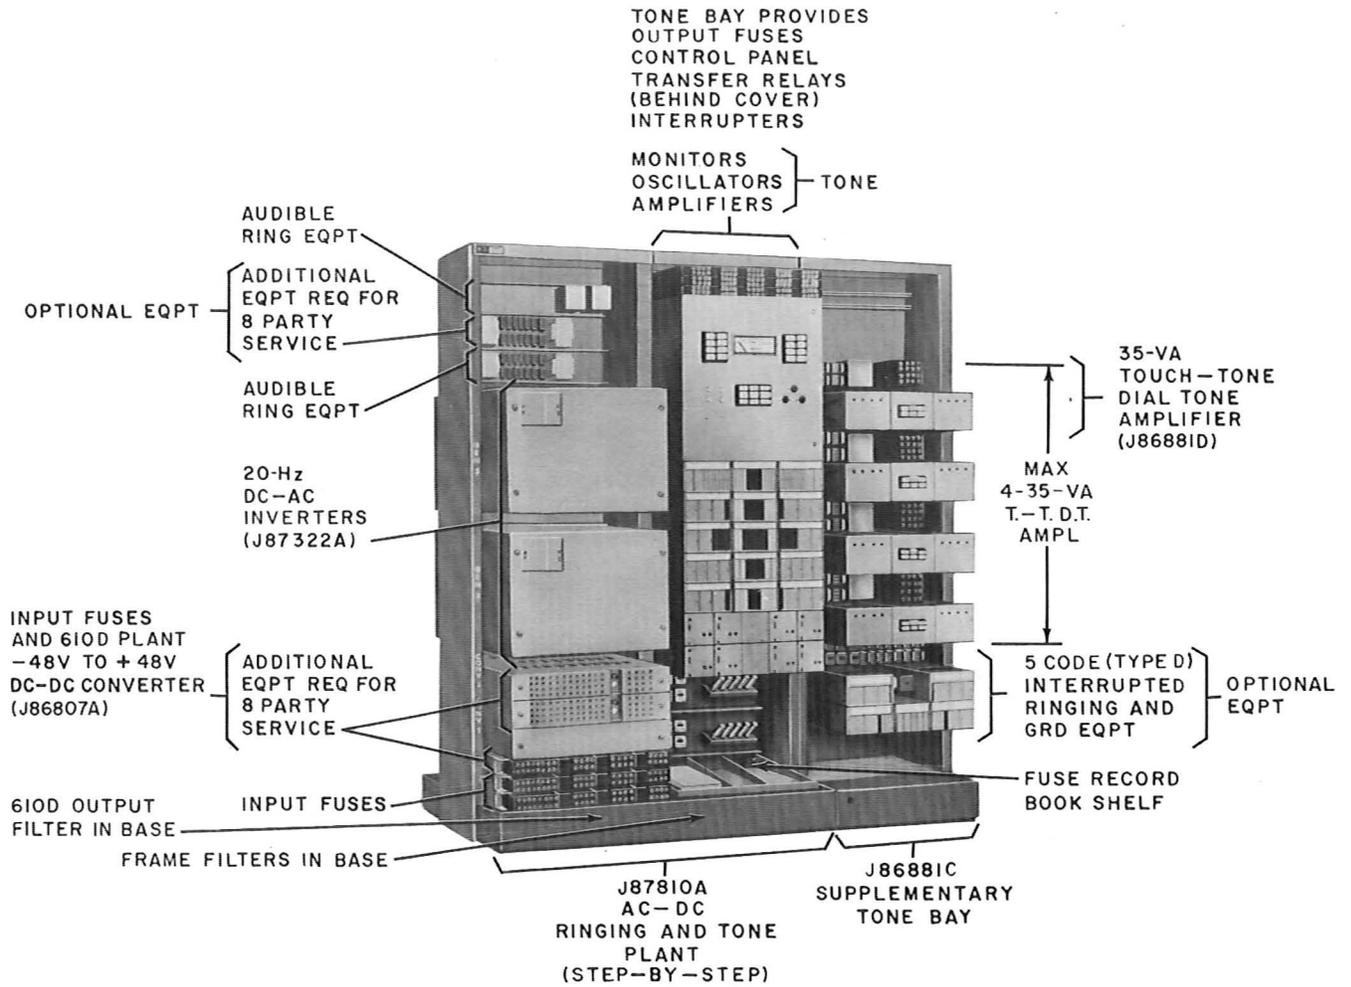
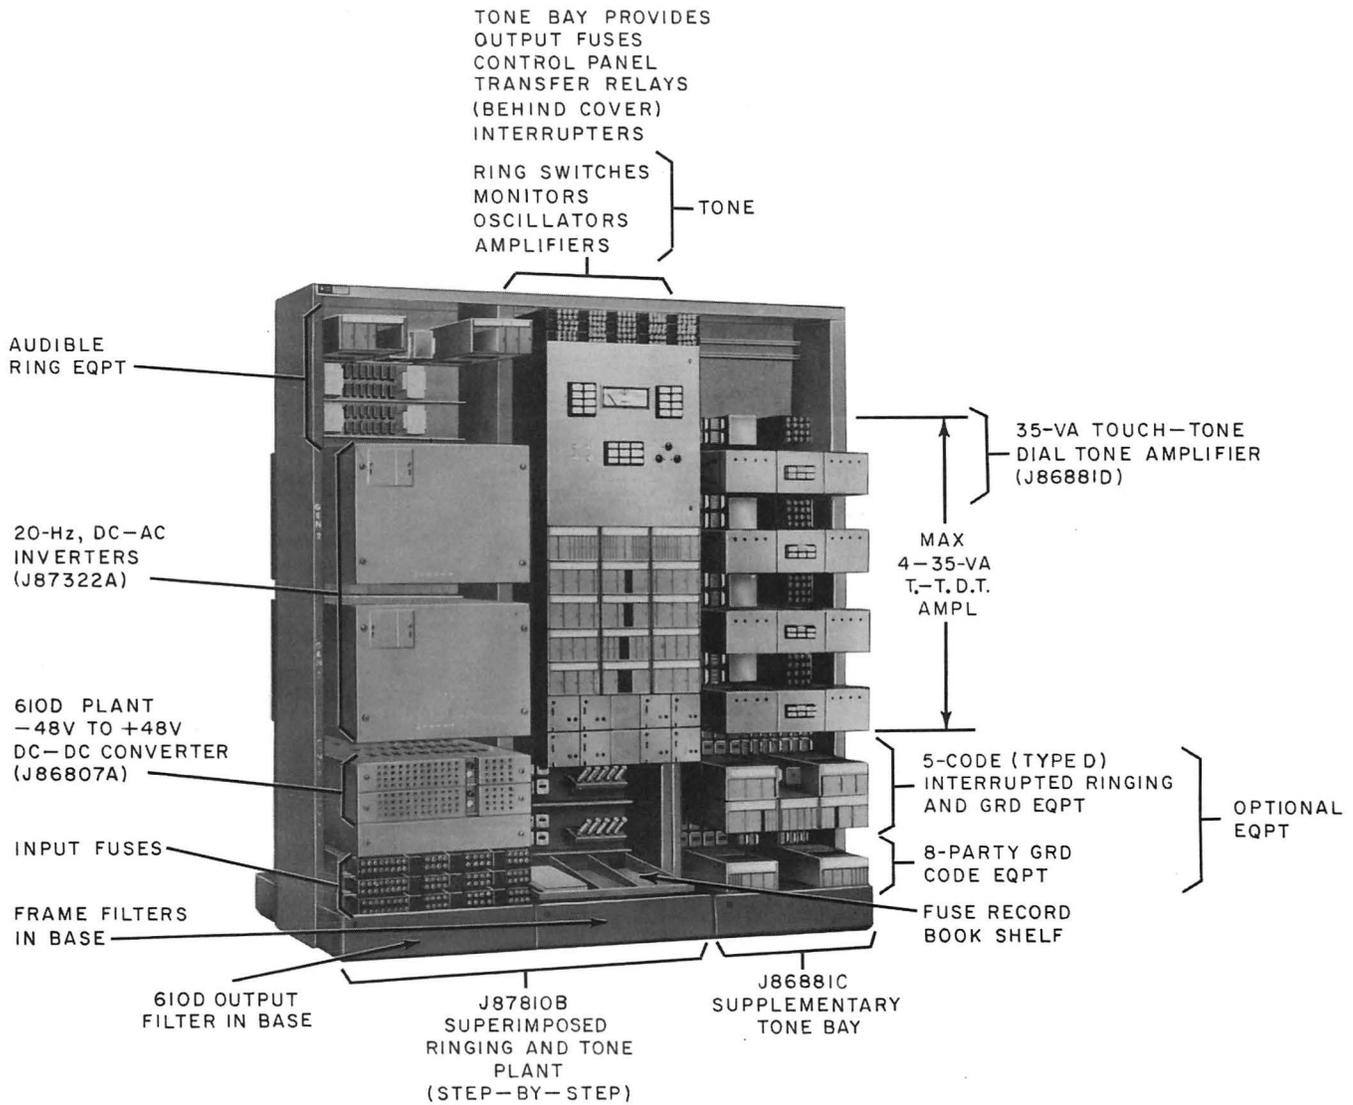

Fig. 1—J87810A AC-DC Ringing and Tone Power Plant (Step-by-Step)
Fig. 2—J87810B Superimposed Ringing and Tone Power Plant (Step-by-Step)
1.04 The **J87810A AC-DC Ringing and Tone Power Plant** (Fig. 1) is used for 2- and 4-party ac-dc ringing, 5-code (type D) ringing and grounds, and 8-party service, while the **J87810B Superimposed Ringing and Tone Power Plant** (Fig. 2) is used for 2- and 4-party superimposed ringing, 5-code (type D) ringing and grounds, and 8-party ground codes. The following items are furnished for these plants: